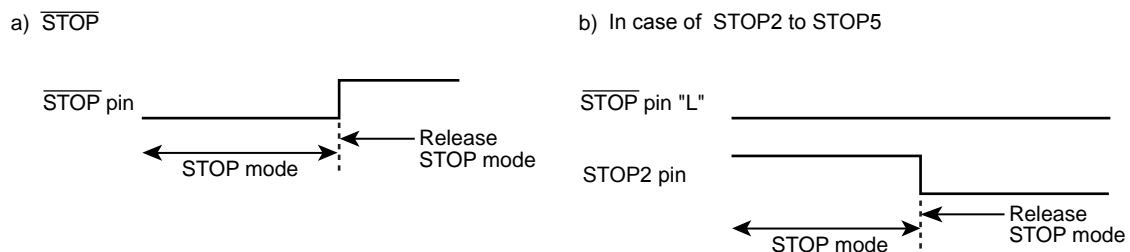

Figure 15-3 Priority of  $\overline{\text{STOP}}$  pin and STOP2 to STOP5 pins
- Note 6: When the STOP mode is released by STOP2 to STOP5 pins, the level of  $\overline{\text{STOP}}$  pin should hold "L" level (Figure 15-3).